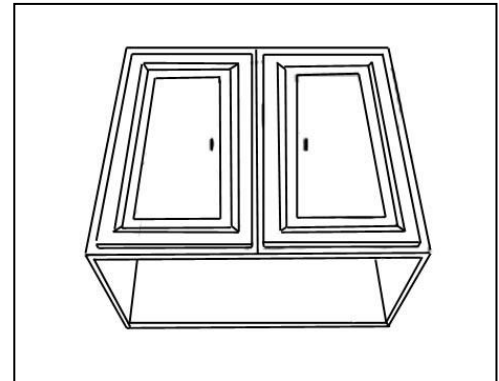

Figure 1
10. Make sure the cabinet has full access opening for the hood as shown on Figure 1.